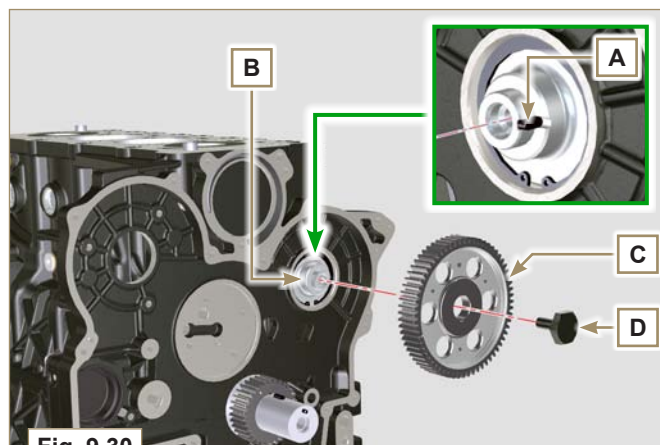

Fig. 9.30
- 10 - Tighten the screw **D** (Fig. 9.30 - tightening torque at **100 Nm**).